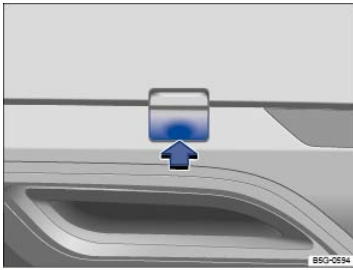

Fig. 168 In the right rear bumper: Removing the cover.
- Push on the cover at the bottom marking ⇒ Fig. 168 (arrow) so that it pops out.